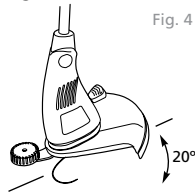
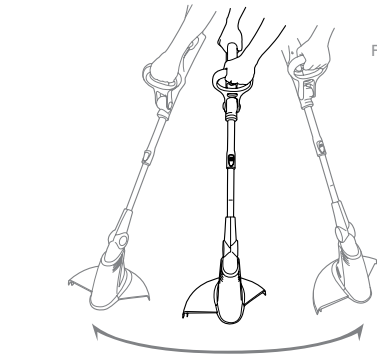

Fig. 4
Fig. 5
3. When operating the trimmer hold it at an angle of about 20 degrees above ground level (Fig. 4). Swing the trimmer from side to side to make an even cut (Fig. 5).